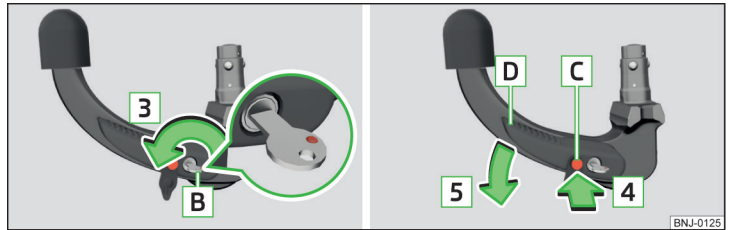

Fig. 244 Lock unlock / press release bolt and lever and push
- › Turn key **B** in the direction of arrow **3** so that the red marking is pointing upwards » Fig. 244.